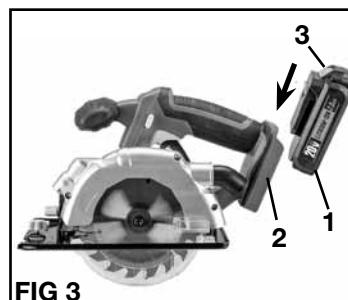

FIG 3
INSTALLING OR REMOVING THE BATTERY PACK (FIG 3)
- To install the battery pack, slide the battery pack (1) into the end of the tool housing (2) all the way until it locks in place with a click, as shown in FIG 3. Lightly pull on the battery to ensure it is locked into place and will not accidentally fall out of the tool, causing an injury.
- To remove the battery pack, pull the battery pack away from the tool while depressing the battery locking tab (3).
- Connect the charger adaptor (1) and the charger stand (3).
- Plug the charger adaptor (1) into a 120 Volt AC power source. The green light on the charger stand (3) will illuminate, indicating the charger is powered.
- Slide the battery (2) all the way into the charger stand (3) until it locks in place with a click, as shown in FIG 3. The red light on the charger stand will illuminate, indicating that the battery is charging.